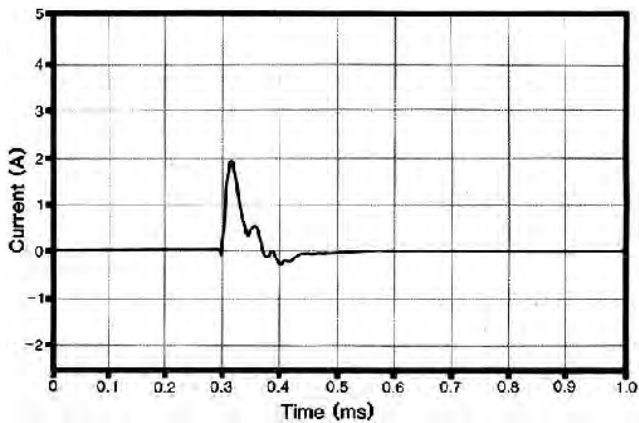

FIGURE 14. Dry Condition Current Output.
**Shock Intensity:** Current output for dry and wet conditions are shown in FIGURES 14 and 15.